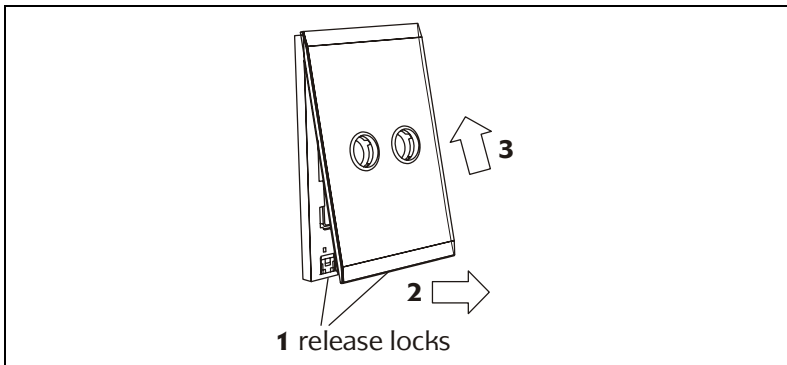

Figure 4 – Removing the facia on an 'A' Series Ulti Saturn unit
- 2) Swing the lower end of the facia about 5 mm away from the grid, until it is free (refer to Figure 4).